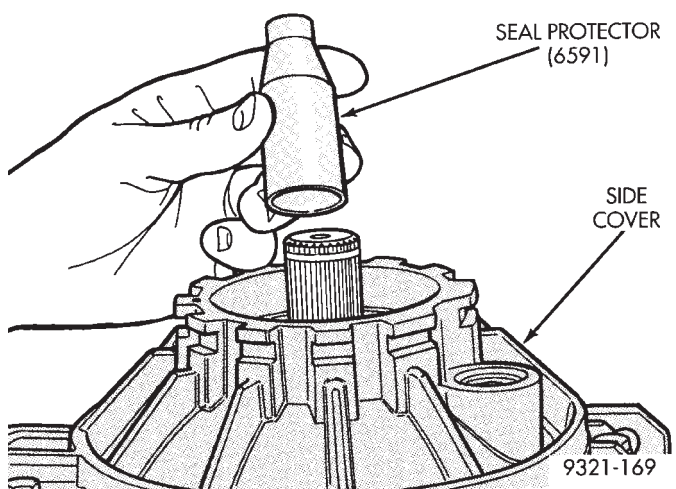

Fig. 268 Seal Protector
(27) Install seal protector (special tool 6591) as shown in (Fig. 268). Apply a thin film of gear oil on the protector.